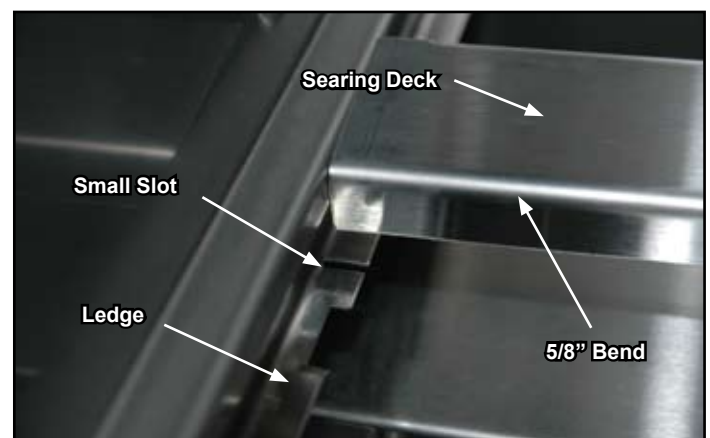

Figure 12
3. Hold the searing deck with the round air holes away from you and the rectangular cut-outs to the top and place it into the grill approximately 1/3 inch from the back. The 5/8 inch bend facing you slides into the small slots in the ledges on both sides of the compartment. See Figure 12.